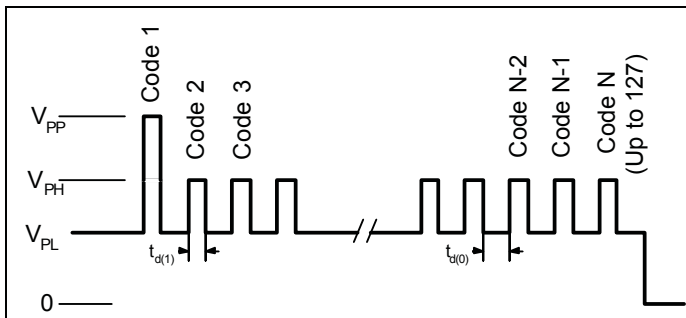

Figure 2. Addressing Pulses: Positive Polarity
**Addressing with positive polarity** The magnetic operate point,  $B_{OP}$ , is adjustable using 7 bits or 128 addresses. The addresses are sequentially selected (figure 2) until the required